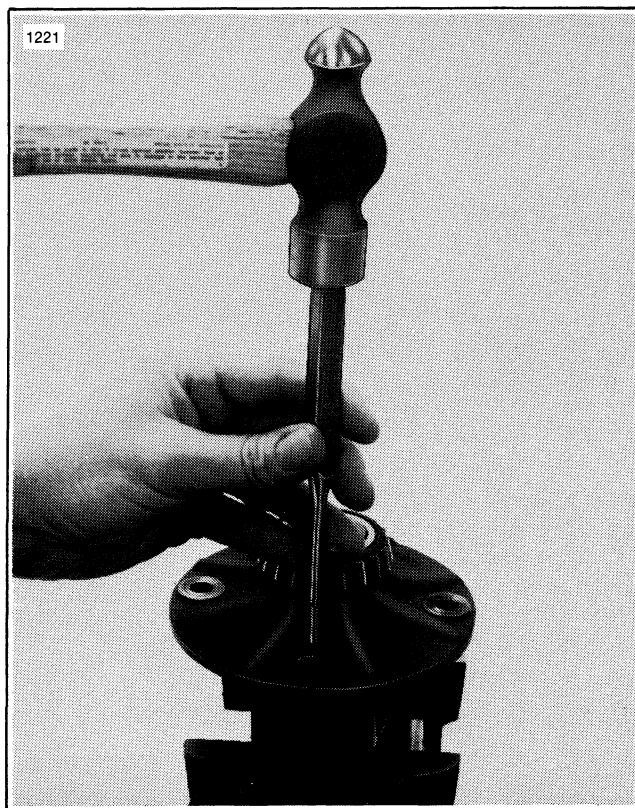

Figure 3-21. Installing Lock Pin
4. Align lock pin hole in pinion mate shaft (14) with hole in case and drive lock pin (9) to approximate center location of pinion mate shaft (Figure 3-21).